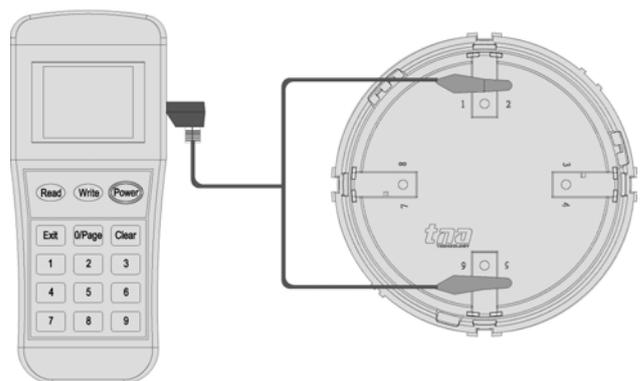
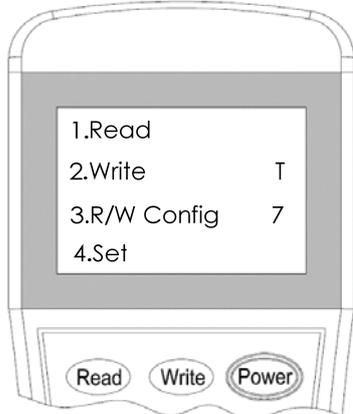

Fig.5 Connection of programming tool and Addressable Flashing Beacon Base
Fig.6 Main menu
1. Connect the programming cable to Z1 and Z2 terminals, as shown in Figure 5. Press **"Power"** to switch on the unit. The main menu after the boot as shown in Figure 6.
The encoding mode of the Addressable Flashing Beacon Base can be set by a programming tool. As shown in figure 11, the option corresponding to the number will be selected when a number is pressed at the interface shown in Figure 6. And then click the button "write". The word "Success" or "Fail" on the screen means that the success or not of the encoding mode setting, as shown in figure 12 and figure 13.